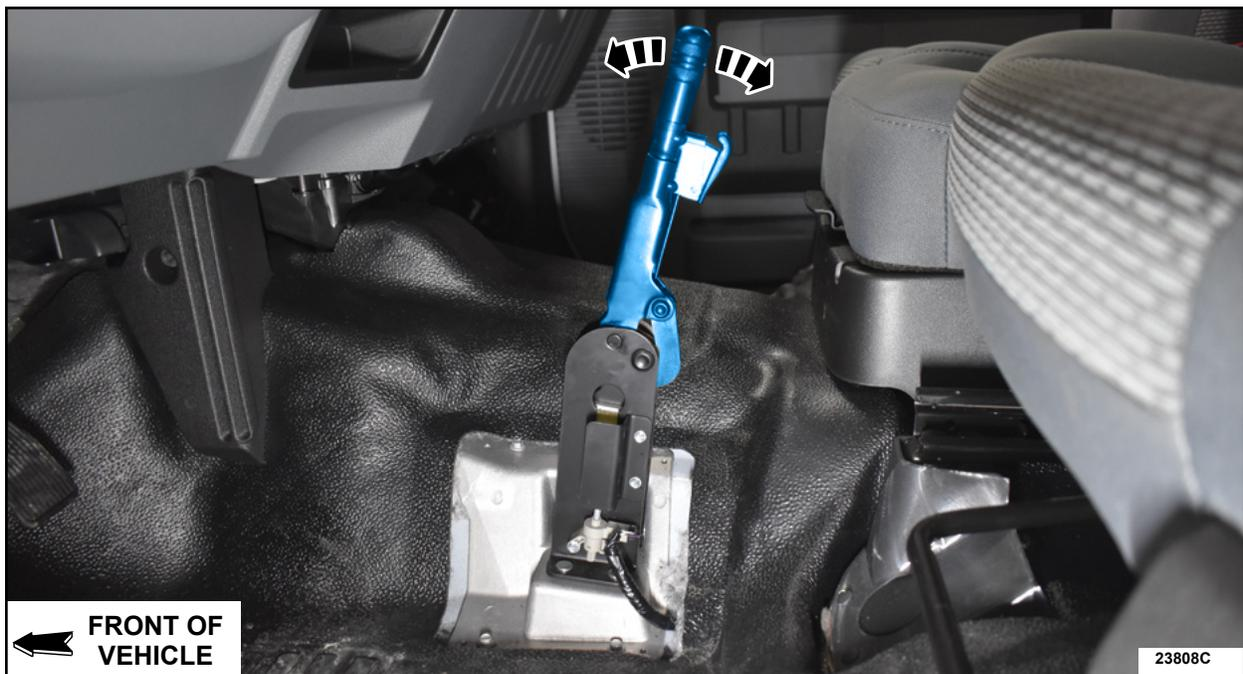

FIGURE 3
3. Without pressing the release button, press the manual parking brake lever forward and backwards 5 times. See Figure 3.